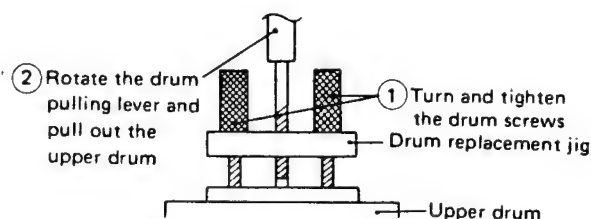

Figure 32.
1. Unsolder the leads ① to ⑧ and remove them.
2. Remove two screws ⑨ [brass screws (W3P+9S) with plain washer] by using a philips screwdriver. Withdraw the upper drum with care not to allow it to be tilted, and replace it. Do not damage the outer surface of the disk. For withdrawal of the upper drum, use the jig (specialized for removing the upper drum) shown in Fig. 32.